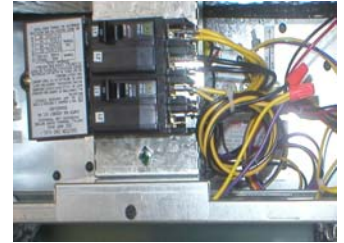

Figure.3
8. Secure the heater to the air handler using five screws. Use 4 screws on the heater compartment and one on the front heater tab flange. Reference Figure 3.